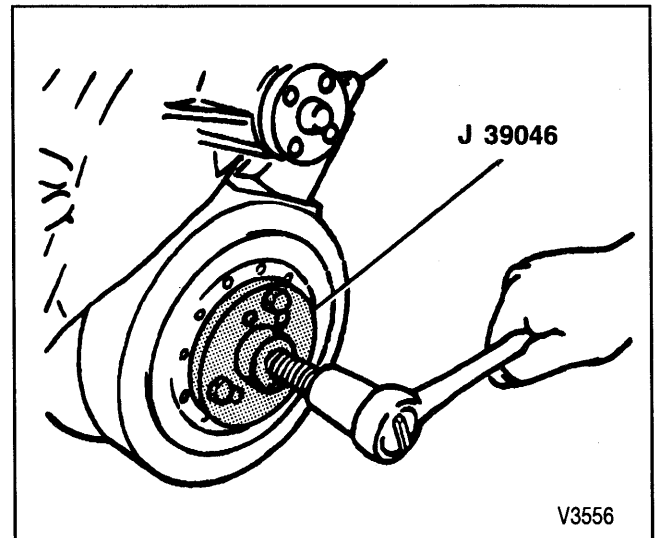

Figure 14—Removing the Torsional Damper
Remove or Disconnect (Figure 14)
6. Torsional damper. Use J 39046 (figure 14).